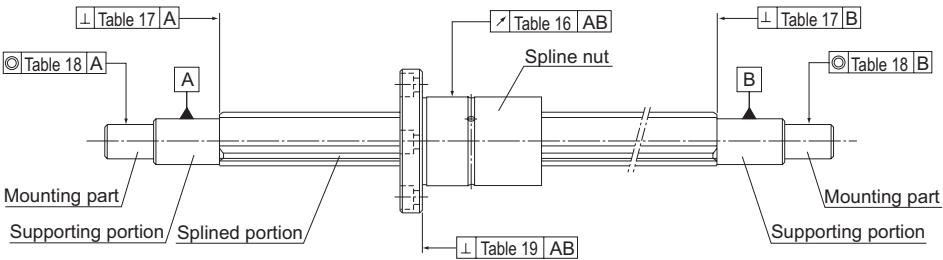

Fig.11 Accuracy Measurement Items of the Ball Spline
The accuracy of the Ball Spline is classified into three grades: normal grade (no symbol), high accuracy grade (H) and precision grade (P), according to the runout of spline nut circumference in relation to the support of the spline shaft. Fig.11 shows measurement items.